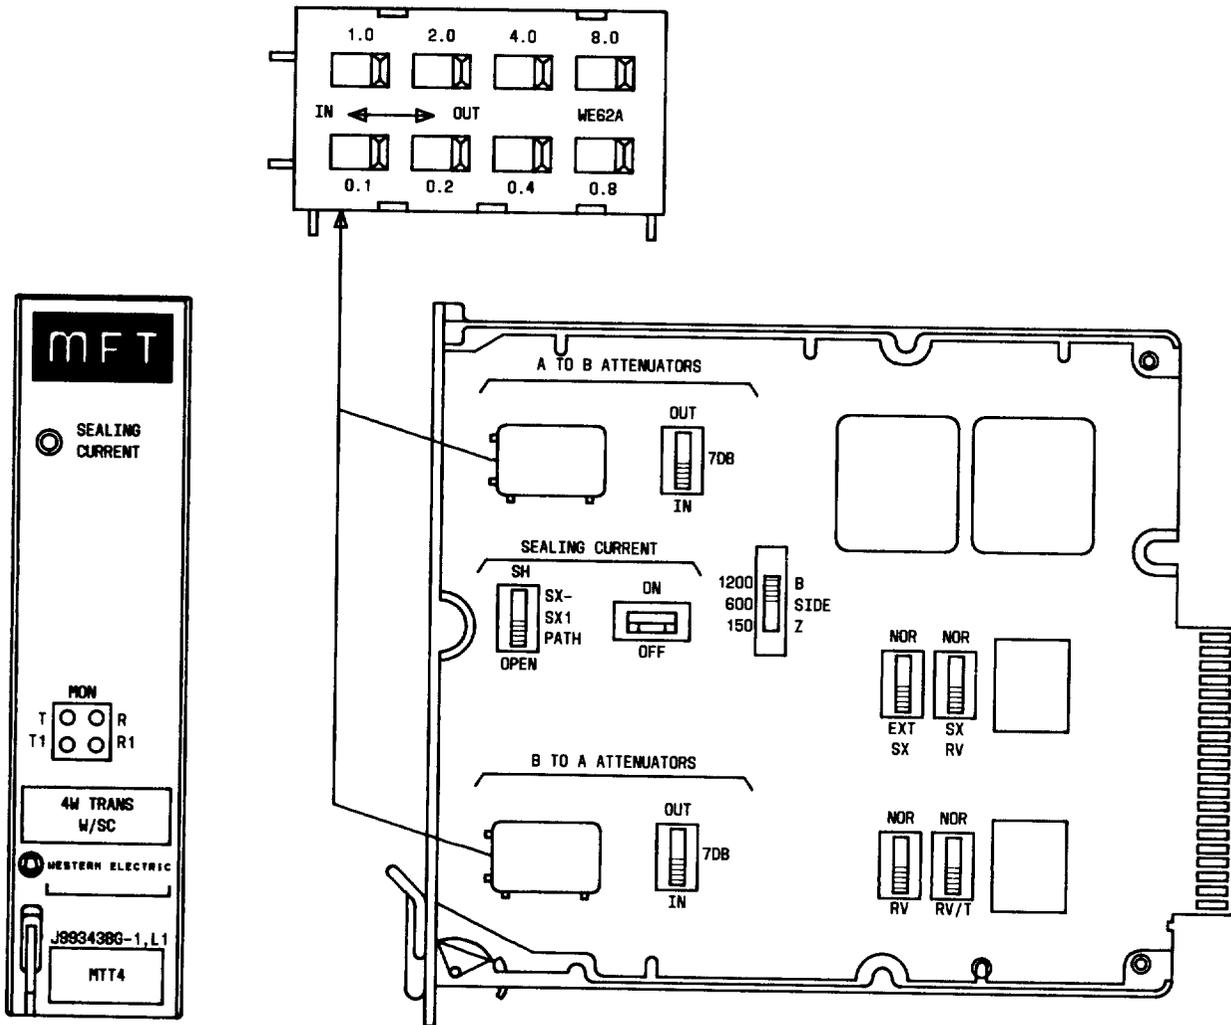

Fig. 1—4-4 Wire Transmission Unit J99343BG Component Layout
1.03 The J99343BG unit shown in Fig. 1 provides transmission level control, impedance matching, signaling lead access, and sealing current for application between terminal equipment or nonloaded facility on the A-Side and loaded or nonloaded facility on the B-Side. More detailed descriptive information on this unit is provided in Section 332-912-105.
2.02 Figure 1 shows the location of the individual unit controls. These controls must be set properly prior to the installation of this unit. The settings are determined by circuit application and are to be supplied by the local circuit layout organization.